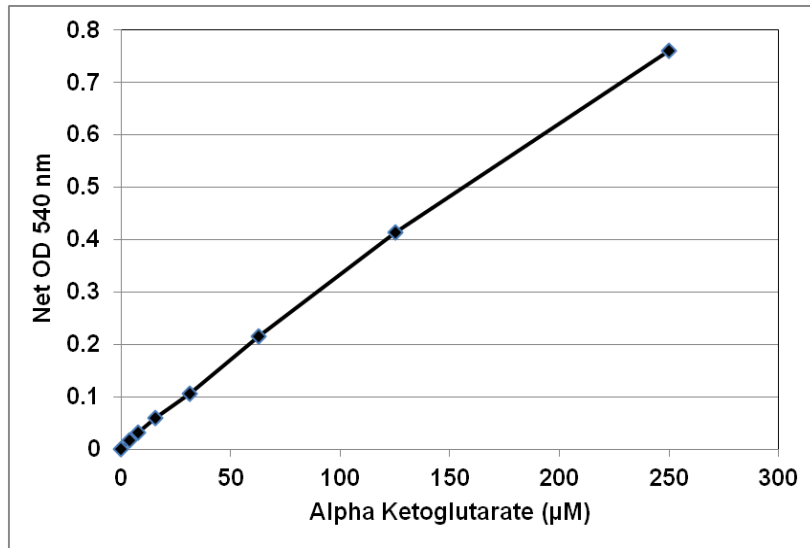

Figure 2: Example α -Ketoglutarate Standard Curve.
3. Plot the corrected absorbance for the standards against the final concentration of the α -Ketoglutarate standards from Table 2 to determine the best curve. Use the final time point absorbance values to plot the α -Ketoglutarate standard curve. See Figure 2 for an example standard curve.